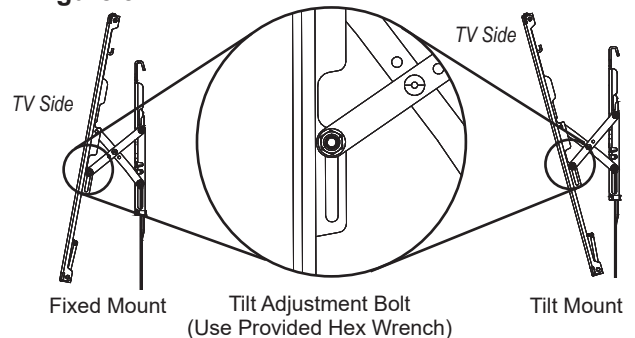

Figure 6
If display is not horizontally level when mounted, adjustment screws are included at the top of each arm for micro-adjustments (Figure 6). Use the provided hex wrench (O) to raise or lower the screw and adjust the mount accordingly.